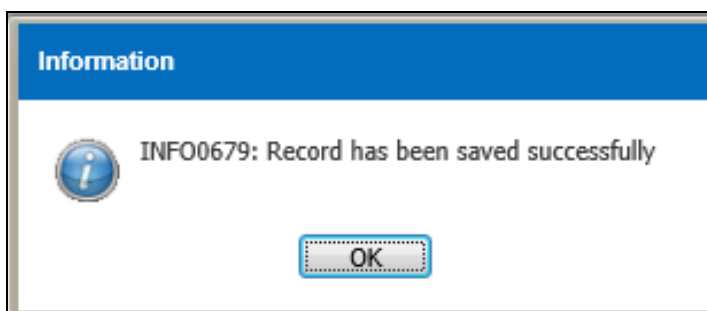

Figure 3.13.2-5 Information Message
- Click on the  button to create new record for Reference Code and fill the record as shown on Figure 3.13.2-2